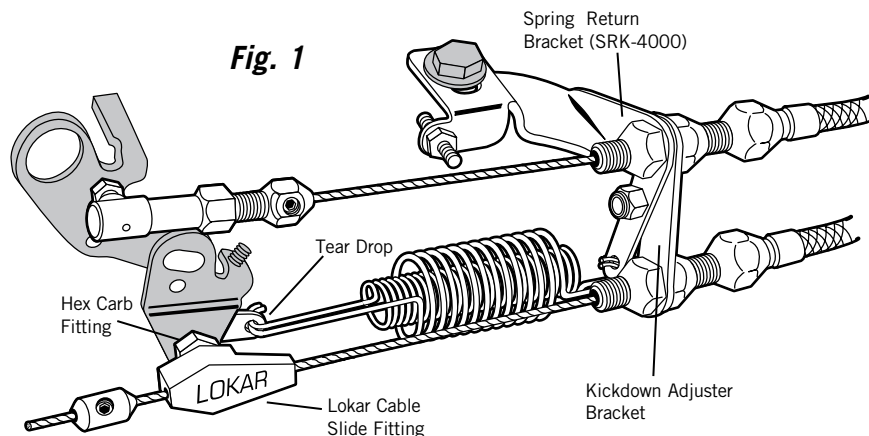

Fig. 2
Step 3: Install the cable bracket to the transmission tail housing mounting bolt as in **Fig. 2**.
Step 4: Mount the ball fitting to the kickdown lever on the transmission as illustrated in **Fig. 2**. (The kickdown lever is not included; the OEM Lever must be used)